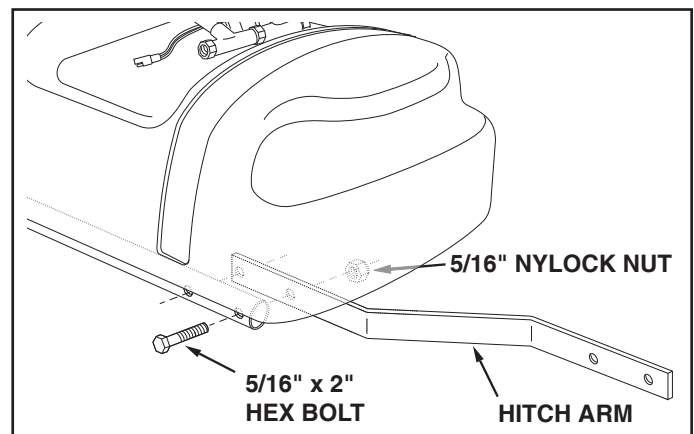
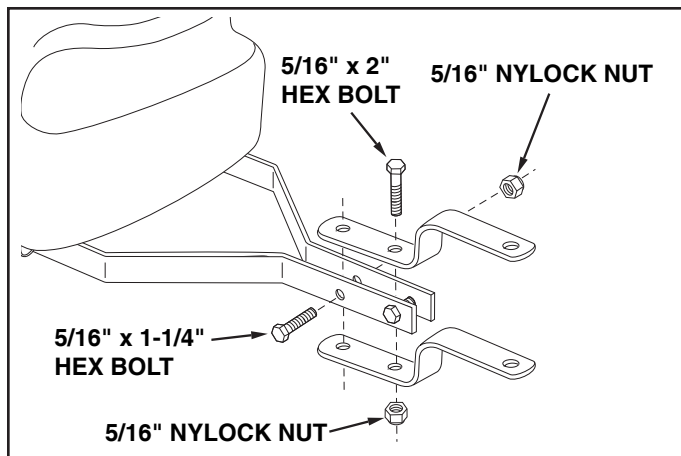

FIGURE 3
FIGURE 4
- Assemble a hitch arm to the inside of a frame tube underneath the tank. Use two 5/16" x 2" hex bolts and 5/16" nylock nuts as shown in figure 3. **Do not tighten yet.** Repeat for other side.
- At this time **tighten all bolts** starting with the bolts in figure 3, then the bolts in figure 4.